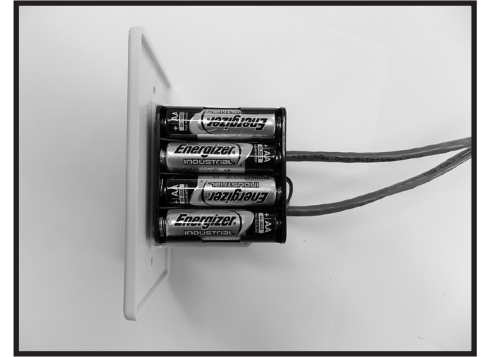

Figure 27: Wall switch - battery side.
- Insert the 4 supplied “AA” batteries into the battery pack of the wall switch (Figure 27).